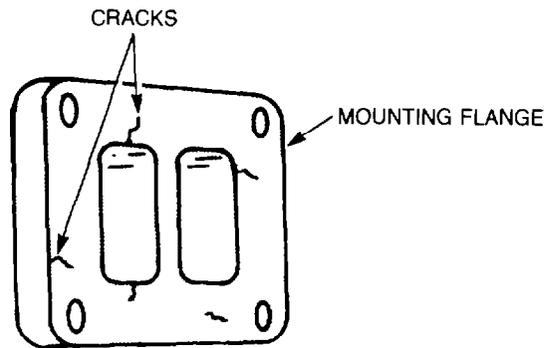

Figure 149 — Mounting Flange — Inspection
- p. Inspect the mounting flange for cracks (see Fig. 149), and if any cracks found are longer than 15 mm (0.6 in.) replace the turbine housing.